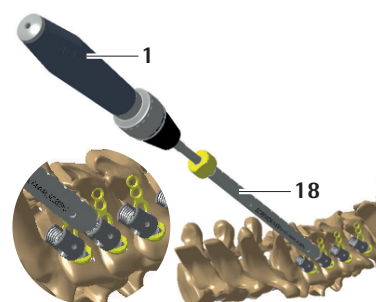

Fig. 55
- ▶ Fix the laminoplasty plate with the polyaxial lateral mass screw, see Fig. 55.